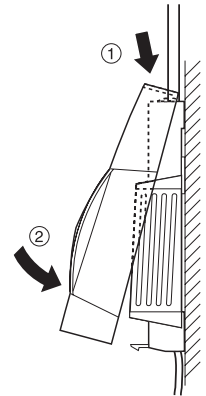

Fig. 4: Placing housing cover in position
- ▶ Place the housing cover in position above and snap it down (see Fig. 4).